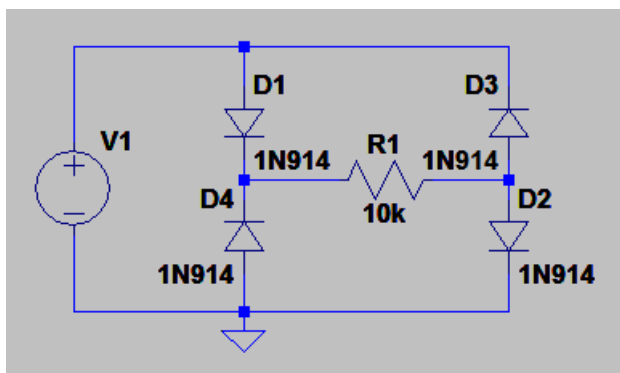

Figure B-4
- Repeat the experiment above but first build the full-wave rectifier shown in Figure b-4. Note that this circuit is the reason why there are four 1N914 diodes in your kit.